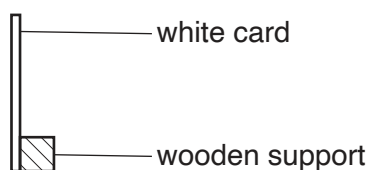

Fig. 3.2
- 2 The screen can be made from a sheet of white card, approximately 15 cm × 15 cm. Some means of supporting the screen vertically must be provided (e.g. fixing the white card to a small block of wood – see Fig. 3.2).